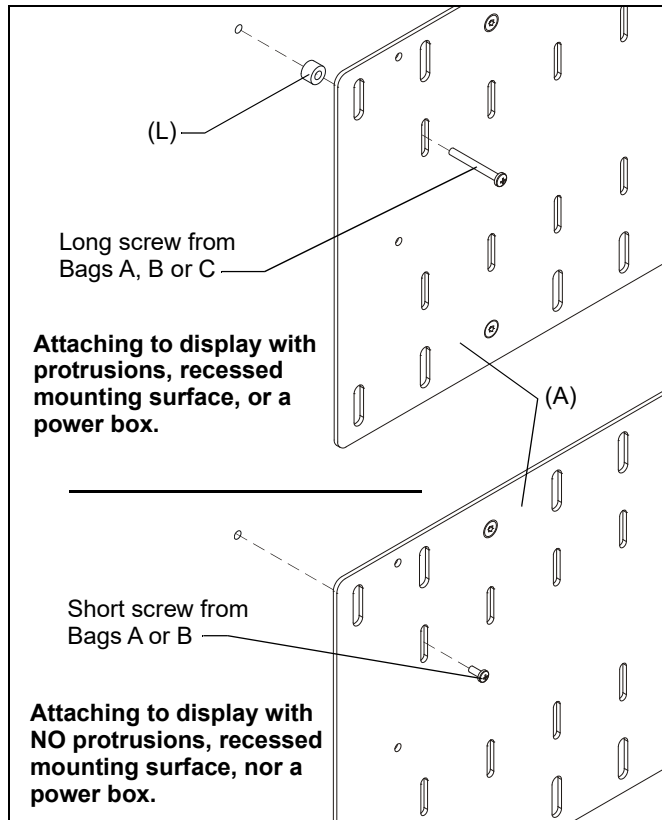

Figure 1
If the display has a recessed mounting surface, protrusions or a power box, a spacer must be placed between the display and MSBV bracket (A) and longer mounting hardware must be used. (See Figure 1)